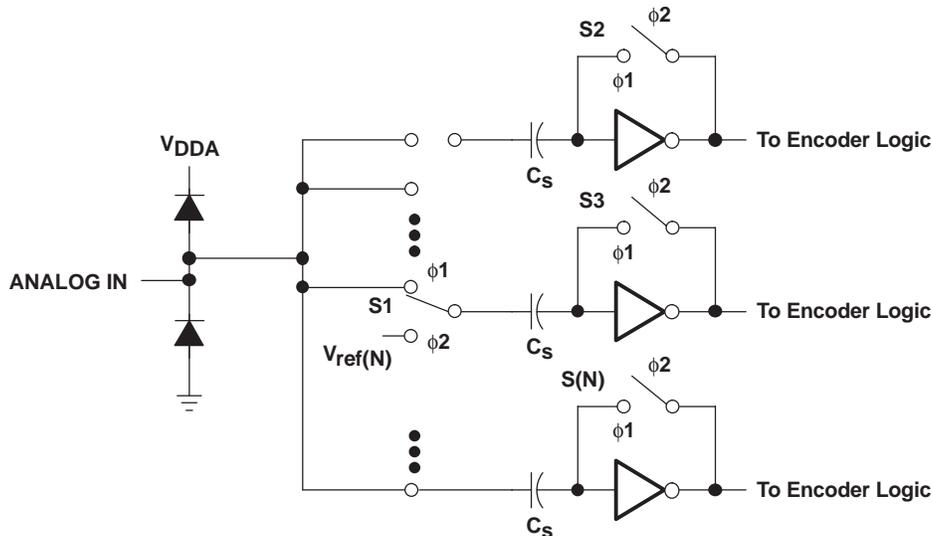

Figure 13. External Connections for Using the Internal Reference Resistor Divider
Figure 13 depicts the analog input for the TLC5540. The switches shown are controlled by two internal clocks, $\phi 1$ and $\phi 2$. These are nonoverlapping clocks that are generated from the CLK input. During the sampling period, $\phi 1$, S1 is closed and the input signal is applied to one side of the sampling capacitor, C_s . Also during the sampling period, S2 through S(N) are closed. This sets the comparator input to approximately 2.5 V. The delta voltage is developed across C_s . During the comparison phase, $\phi 2$, S1 is switched to the appropriate reference voltage for the bit value N. S2 is opened and $V_{ref(N)} - VC_s$ toggles the comparator output to the appropriate digital 1 or 0. The small resistance values for the switch, S1, and small value of the sampling capacitor combine to produce the wide analog input bandwidth of the TLC5540. The source impedance driving the analog input of the TLC5540 should be less than 100 Ω across the range of input frequency spectrum.